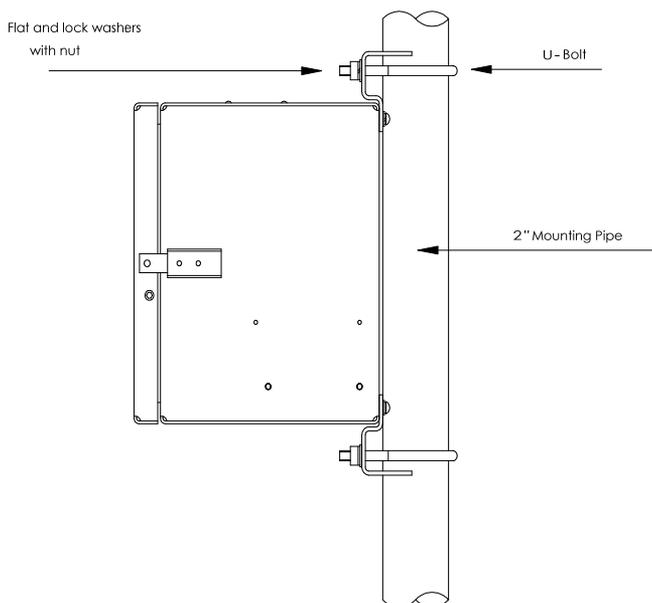

Figure 3 – Pipe Mounted 6400/6700 Enclosure WellTell-X Installation
- 1C** Position the enclosure on the 2" mounting pipe, and secure in place with the two U-bolts, flat washers, lock washers and two 9/16 bolts (see Figure 3).